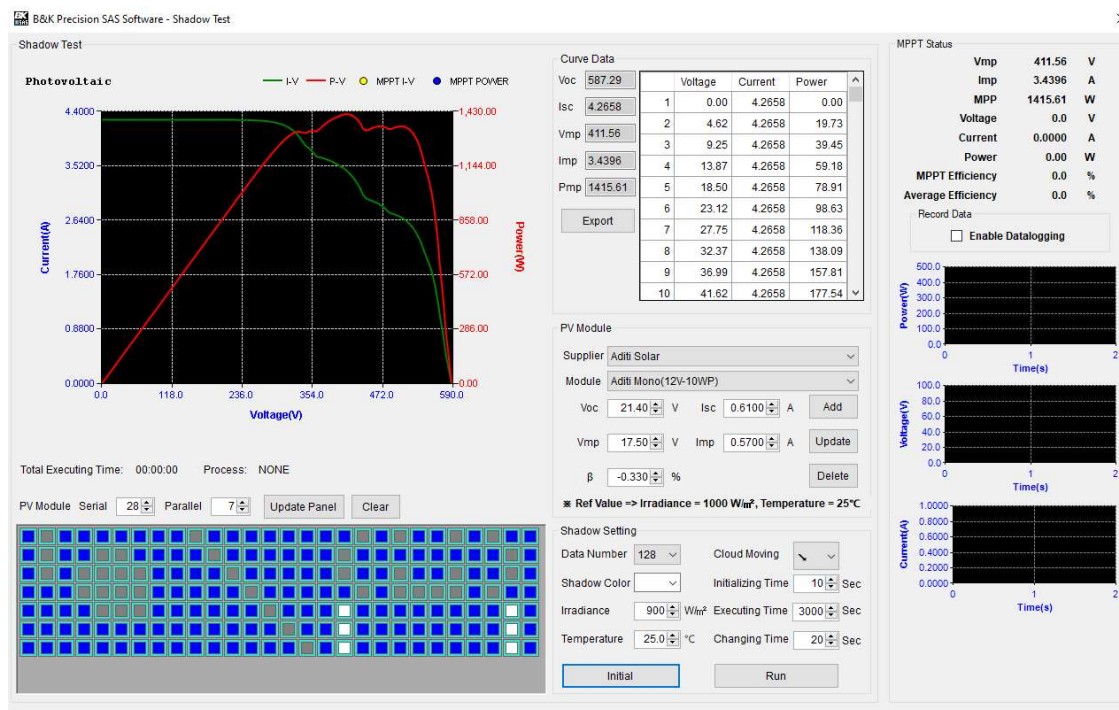

Figure 31 - Final Curve
9. In order to see how the curves are affected by the shadows, the initial button is pressed. This results in the following, final curve (Figure 31).